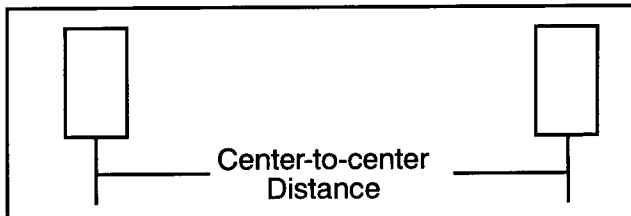

Figure 40
## FRONT WHEEL TOE-IN (Fig. 40,41)
1. Measure center-to-center distance (at axle height) at front and rear of steering tires. Front measurement must be 1/8 to 1/4 inch less than rear measurement. (Fig. 40)